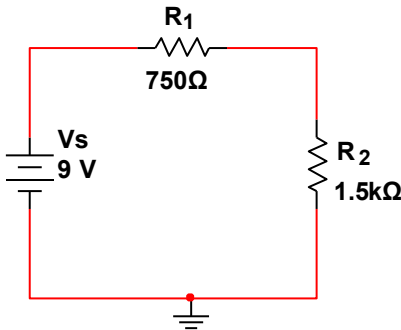

Figure P.1 – DC Series Circuit
Figure P.1 shows a DC circuit that has two resistors R_1 and R_2 connected in series with a DC Voltage Source.
1. **Analyze** the circuit in **Figure P.1**.